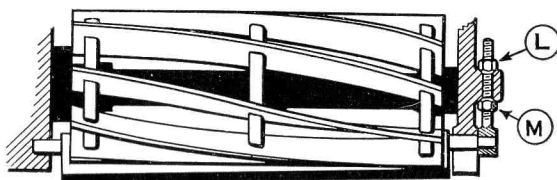
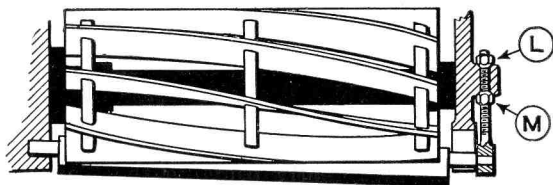

Fig. 4. Bottom Blade High on Right.
Fig. 5. Bottom Blade High on Left.
5. **Setting the Bottom Blade Parallel to the Cylinder** (Figs. 4 and 5). A quite separate adjustment, which is not affected by the adjustment of the bearings or any other part of the machine, is provided for this. It is very similar to the chain
In Figs. 4 and 5 the bottom blade (shown in black) is shown in two exaggerated positions in relation to the cutting cylinder, resulting in the mower cutting on one side only. In Fig. 4 nut (L) should be slacked, and nut (M) should be screwed up until the lower blade lies parallel to the cylinder. In Fig. 5 nut (M) should be slacked, and nut (L) tightened.